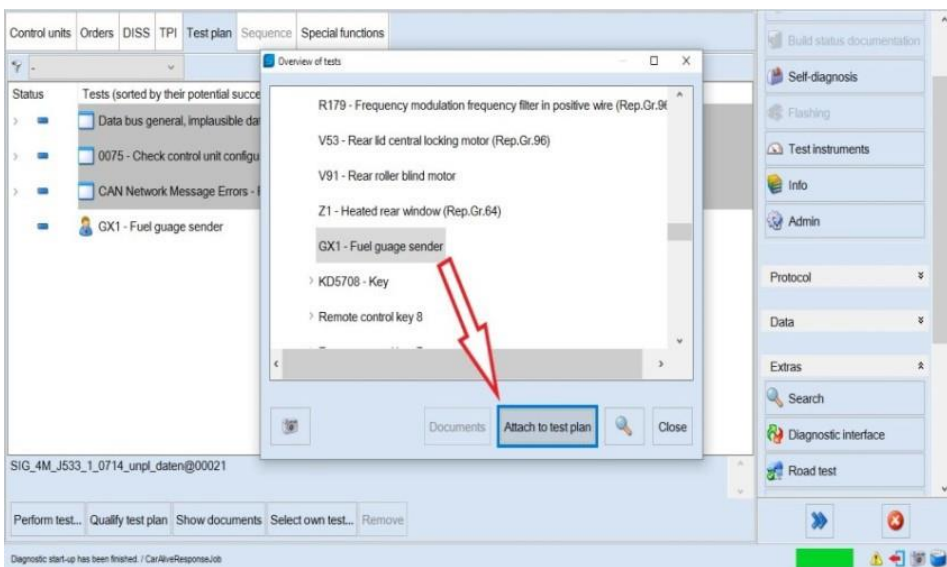

Figure 6
- Select - Attach to test plan (Figure 6)